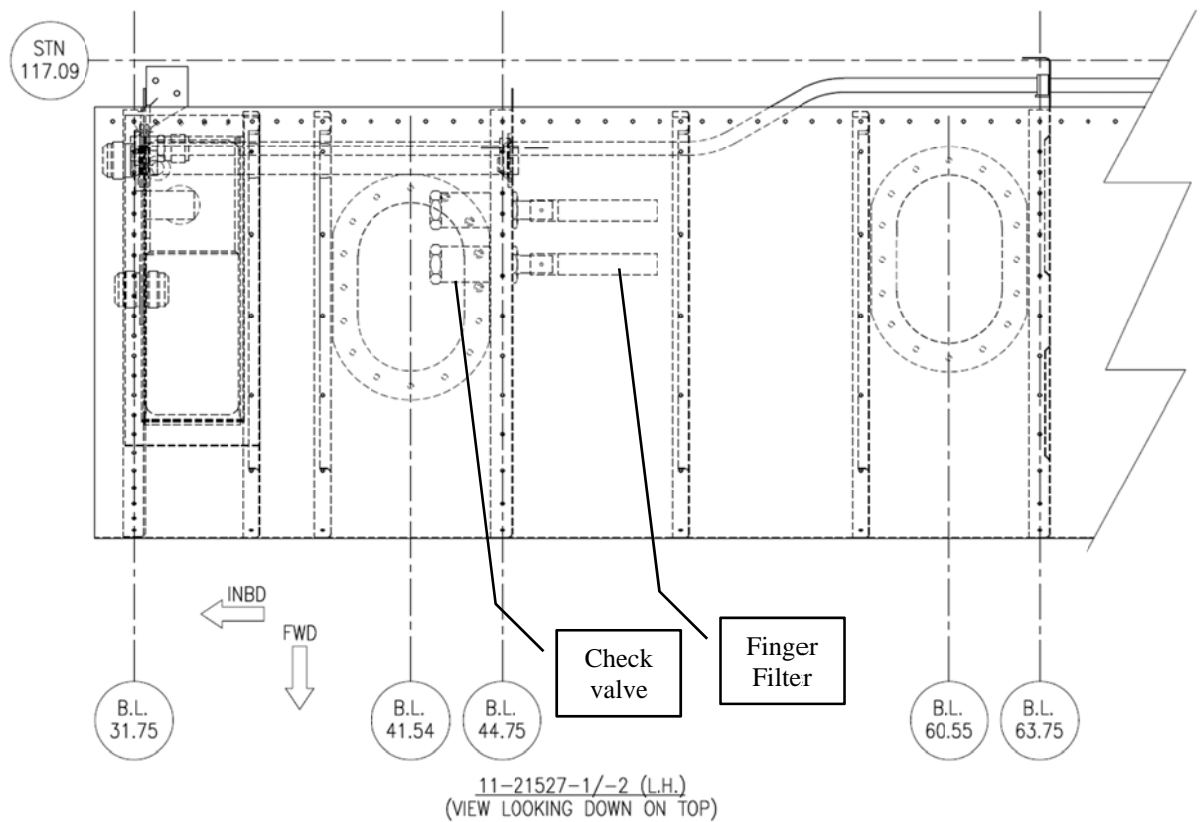

Figure 1 PORT Wing
- 2) At the BL 41.54, remove the Inspection Panel Assembly P/N 11-20391 and related screws from the airframe (See Figure 1).
- 2) Remove the check valve and finger filters on the outboard rib adjacent to the inspection panel access (See Figure 1).